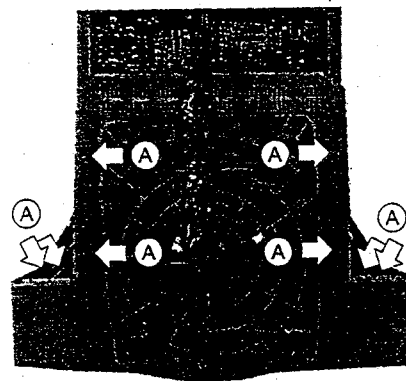

Figure 2-4 Remove the Main Board & Neck Board
9. Remove the eight screws. Refer to the figure 2-4 (A).